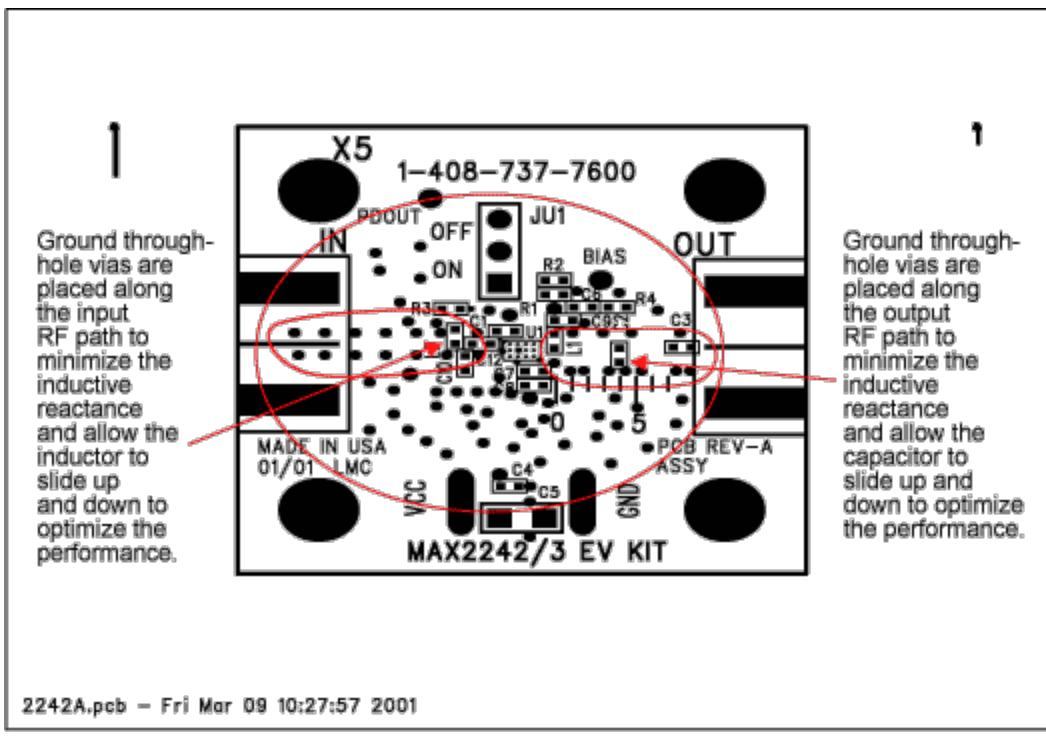

Figure 1. Top-component view of the MAX2242 evaluation board.
**Figure 1** shows how multiple through-hole ground vias are used to improve the grounding of the board, minimizing the inductive reactance established between different board layers and also minimizing the inductive reactance of passive components by the through-hole ground vias being placed as close as possible to the components. In addition, it's very important to have ground vias along the RF path to enable movement of matching components in case optimizing is necessary.